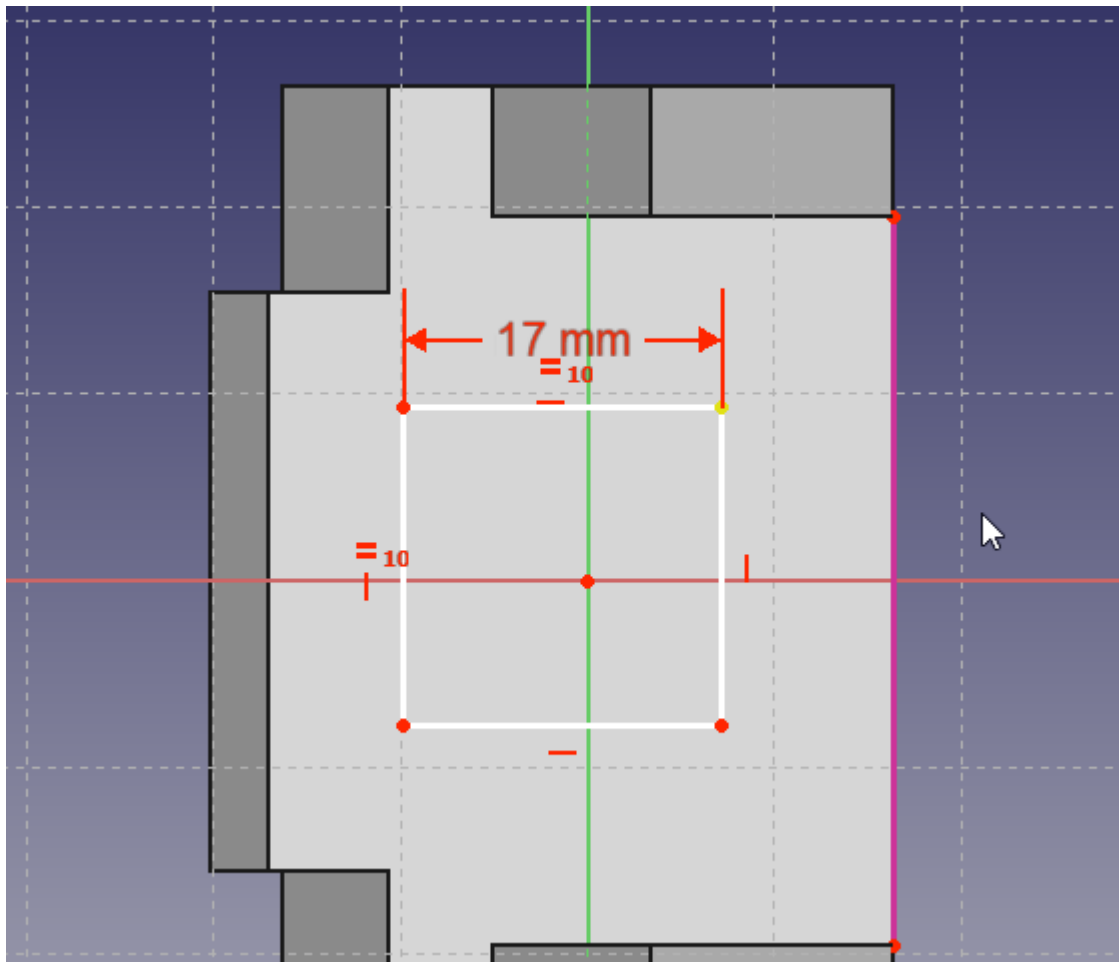

Figure 36 – Using the External Geometry tool
3. Using the External Geometry tool, select the top right point as shown in the Figure 36.